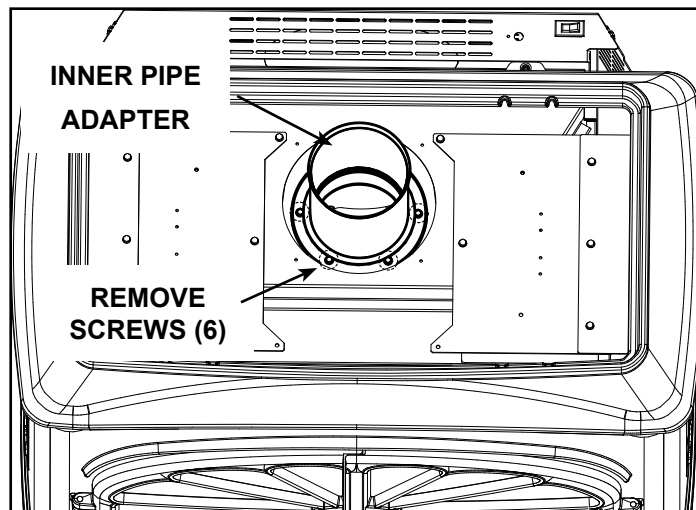

Figure 6.3
3. Remove the inner pipe adapter shown in Figure 6.3 by removing six screws. Remove gasket and discard. Replace six screws into holes and tighten.